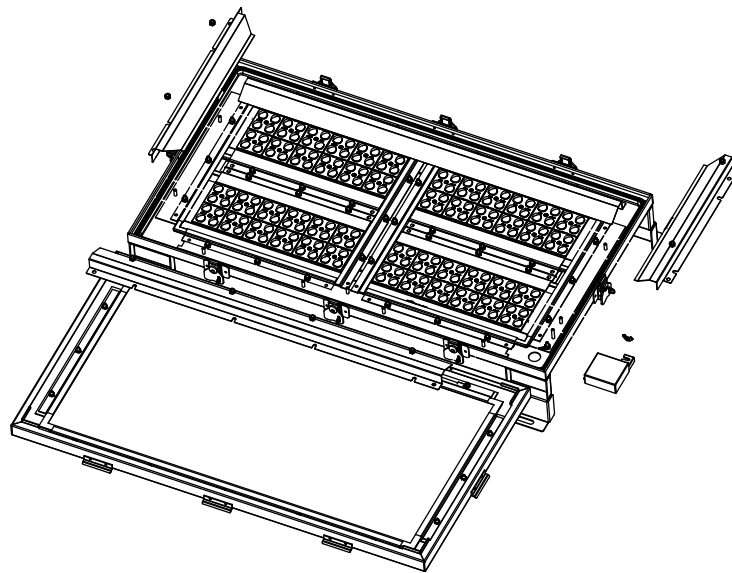

Figure 3
2. Remove reflectors and disconnect LED module leads. See Figure 3.